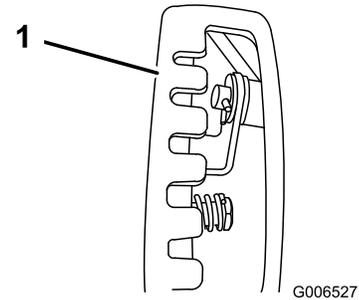

Figure 13
**Note:** For easier installation, look down through the opening in the speed selector (Figure 13).